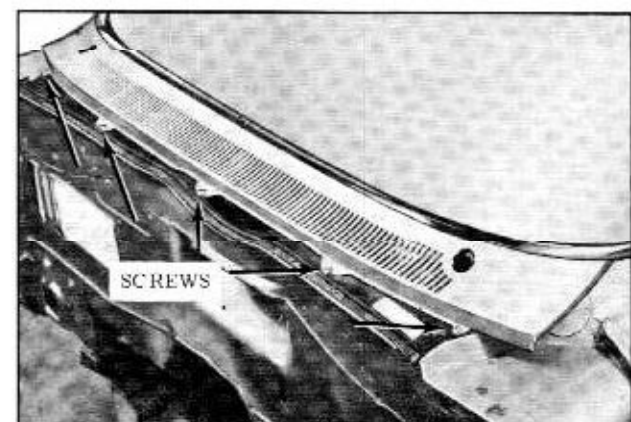

Fig. 17-4 Air Intake Grille
3. Remove air intake grille attaching screws. (Fig. 17-4)